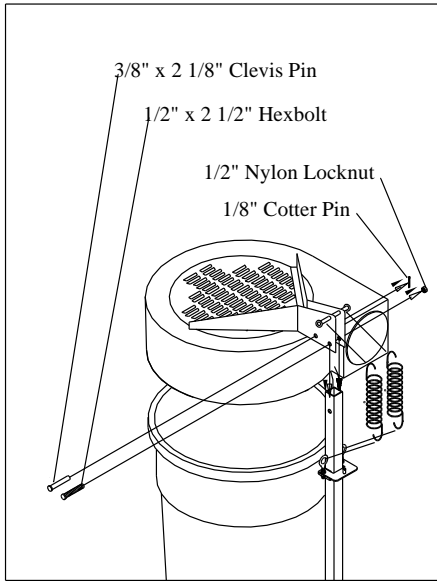

Fig. 10
9. Place molded top on top of container. (Fig. 10) Align pivot hole on top support to pivot hole on vertical upright. Secure with 1/2" x 1 2/4" HHC and 1/2" nylon locknut. Tighten until a slight drag is felt when pivoting top assembly. Pivot top upwards until springs (9) can be attached to spring retainer on top support and to eyebolts. Lower top assembly and slip 3/8" x 2 1/8" clevis pin thru locking pin hole. Secure with 1/8" x 1" cotter key.